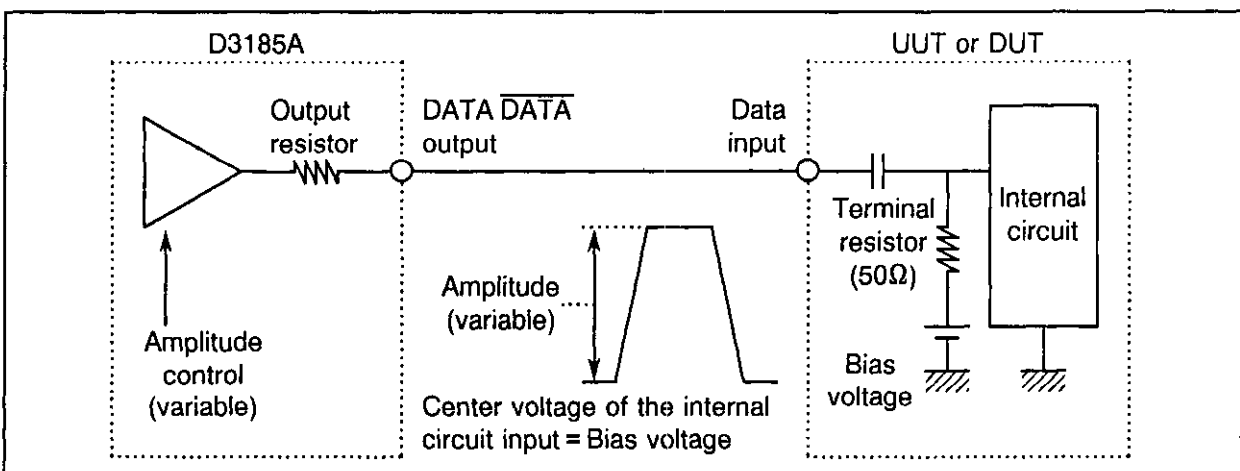

Figure 4-3 With DATA  $\overline{\text{DATA}}$  Output Used in AC Mode and AC-connected Termination
- (3) If the UUT or DUT data input is connected to AC (See Fig. 4-3.)